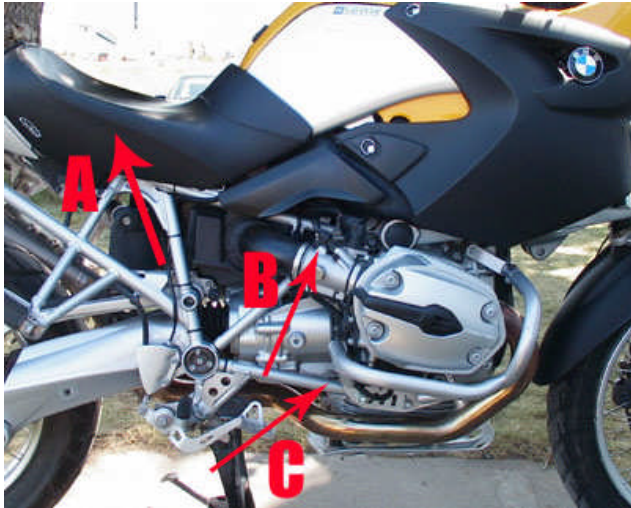

Figure 1
3. For installation, make sure your motorcycle is cold. First remove the seat (Fig 1-A), the small side covers (GS) (Fig 2-A), and the side fairings (RT, ST) to gain access to both injector plugs (Fig 1-B). Disconnect the injector by depressing the metal bail.
4. The O2 connector can be found situated underneath both cylinders (Fig 1-C). To separate the O2 connectors, first the whole connector assembly needs to be pulled backwards from its mounting. This is done by carefully moving the little plastic latch and releasing the assembly (Fig 3). Then lift the safety latch of the connector to separate them.